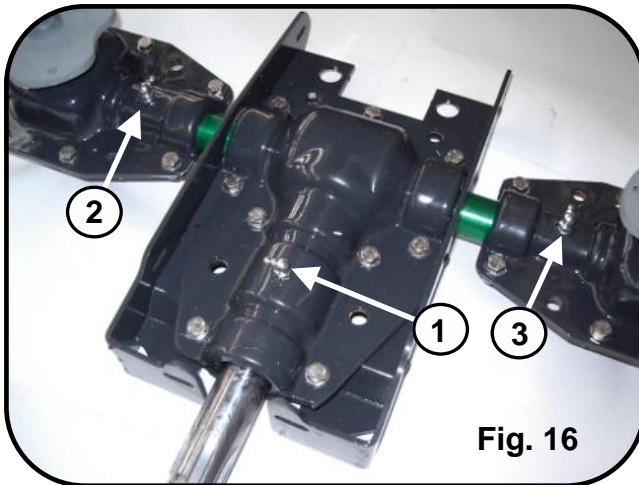

Fig. 16
O.M.B. recommends further greasing of the transmission unit after 100 working hours. Add approximately 100 grams and inject them in the indicated 3 points (Fig.16).